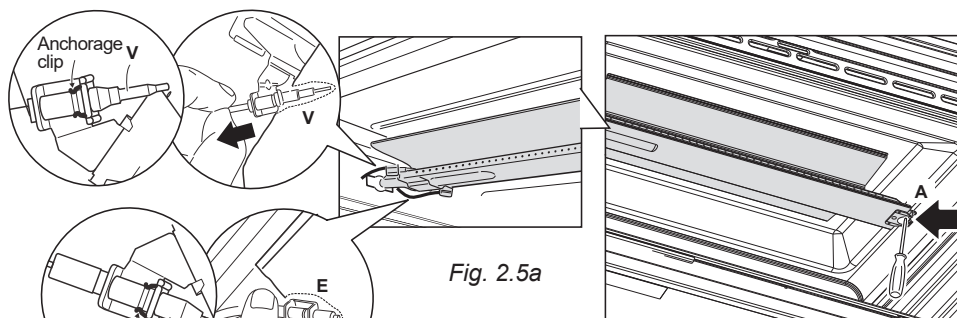

Fig. 2.5a
- Gently unlock, from the burner, the safety valve probe “V” and the ignition electrode “E” (as indicated in fig. 2.5a). Take care not to damage the probe and the ignition electrode.
- Unscrew and remove the burner securing screw “A” (fig. 2.5a).
IMPORTANT: Pay special attention to replace correctly the safety valve probe “V” and the ignition electrode “E” as per figure 2.5a. Check the correct operation of the safety valve and the ignition electrode.